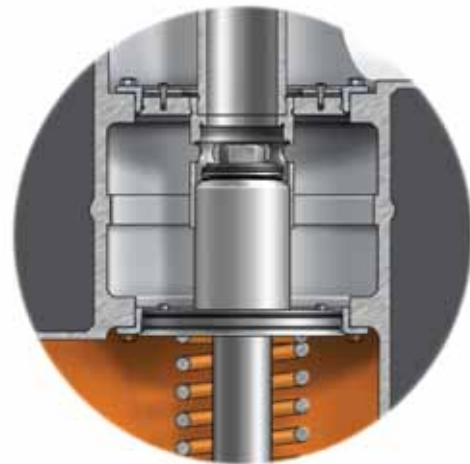

Figure 1
1. With the block valves closed and the vent open, gas enters the inlet port and is blocked by two flow-to-close plugs (the inlet and outlet block). To positively prevent fuel leakage into an idle burner, the chamber between is vented to atmosphere through the ported outlet valve stem. (Figure 1)
3. As the outlet valve continues moving toward its seat, the cage separates from the post, opening the vent. The outlet block enters the seat ring, isolating the vent from downstream piping. When the outlet block contacts the metal back-up seat, the system is fully closed. (Figure 1)